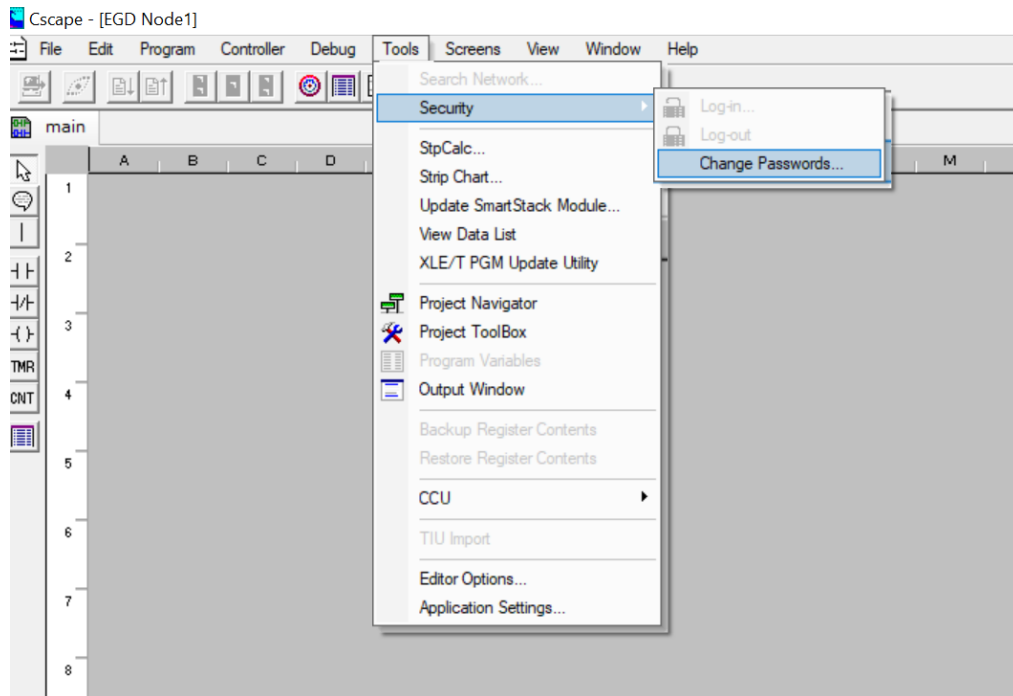

Figure 4.3 - Opening Change Passwords Dialog
3. On the main Cscape screen, select the **Tools** menu and its **Security** sub-menu, and then click **Change Passwords**, then open the **Security Passwords** dialog, as shown in Figure 4.3.